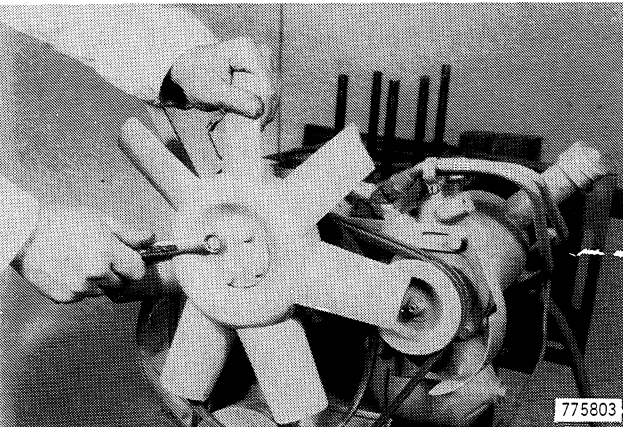

Figure 57
1. Remove the cap screws from the fan, Figure 57.